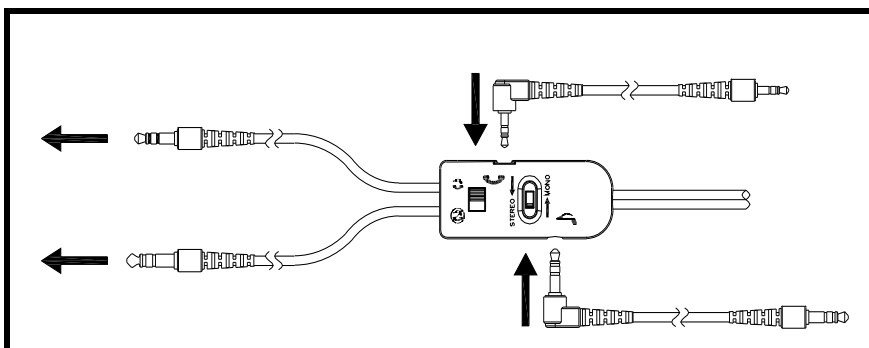

FIGURE 4. Headset Connections
2. Connect the **headset** as shown in Figure 4. If using the standard version, set the MONO/STEREO headphone switch to match the type of sound system in your aircraft. If the headset is set for stereo and the intercom is set for mono, sound will only come out of one (1) earcup.
The Stratus 50-Digital headset is equipped with a switch to quickly and completely disables the cell phone and auxiliary audio devices. See Figure 4.